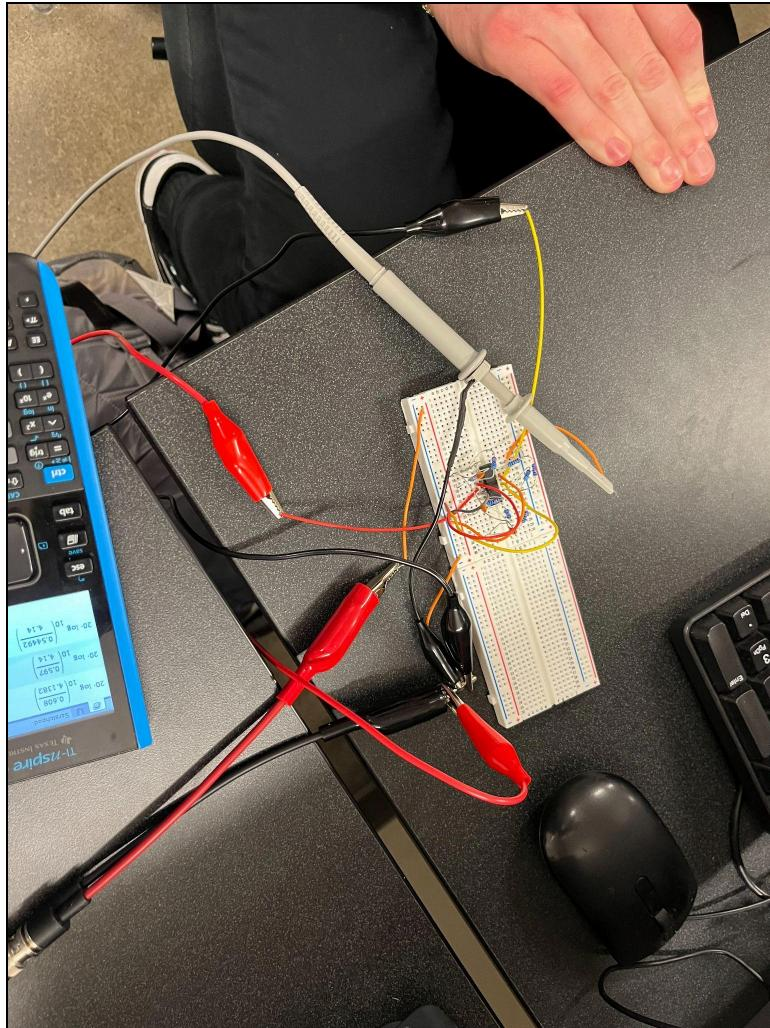

Figure 6: 1 KHz Output
- a. The next part of our project required us to build and test real world results. We used the circuit design given within **Figure 3** above to assemble our HPF on a breadboard which also includes a 4th inverter stage. Using a power supply, various resistors and capacitors, an oscilloscope, signal generator and wires we constructed our circuit. The first test, as expected, did not work properly due to incorrect wiring. My final circuit design can be observed within **Figure 5**. Next we tested our channel outputs for our low end frequency of 1Khz on the oscilloscope. We then used **Equation 2** to calculate our gain. My results for this can be observed within **Figure 6**. The results were very close to falling within our specifications with plus or minus 0.5 db, but we had to take an average of the peak to peak value to get the desired results. Finally, we tested the 39 KHz signal and used the same formula to calculate whether or not the output was correct. This result also fell within our specifications and can be observed within **Figure 7**.